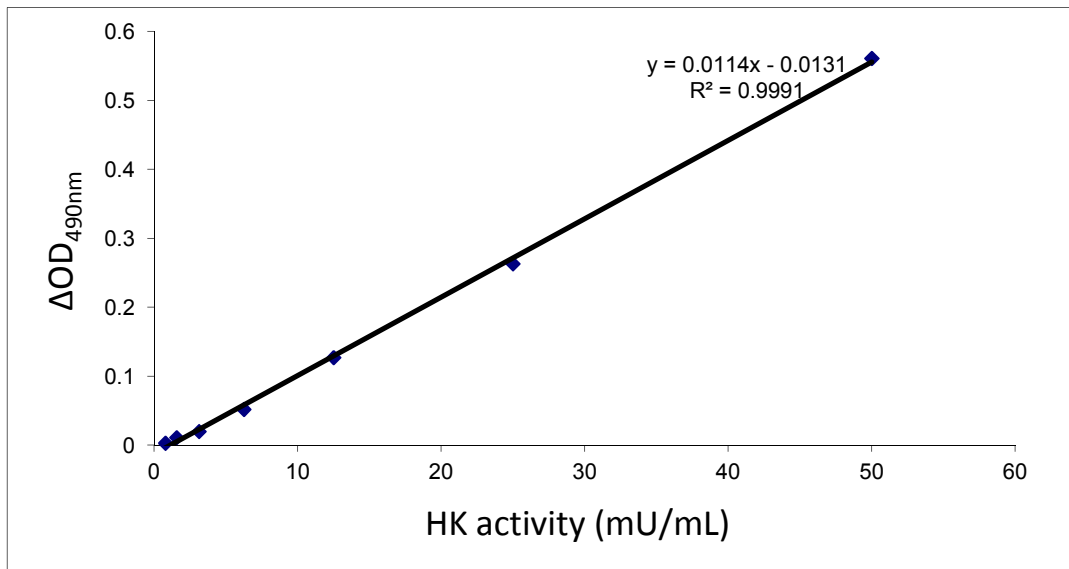

Figure1. A typical HK standard curve measured by ScienCell™ Hexokinase Assay kit
Data from hexokinase assay of HK solutions with concentrations ranging from 0.8 to 50 mU/mL show a linear relationship between OD_{490nm} and HK activity (Figure 1).
2. Based on the calibrated ΔOD_{490nm} of the HK standard, make a standard curve by plotting ΔOD_{490nm} as a function of HK activity (See Figure 1 for a typical standard curve). Determine the equation and R^2 value of the trend line.